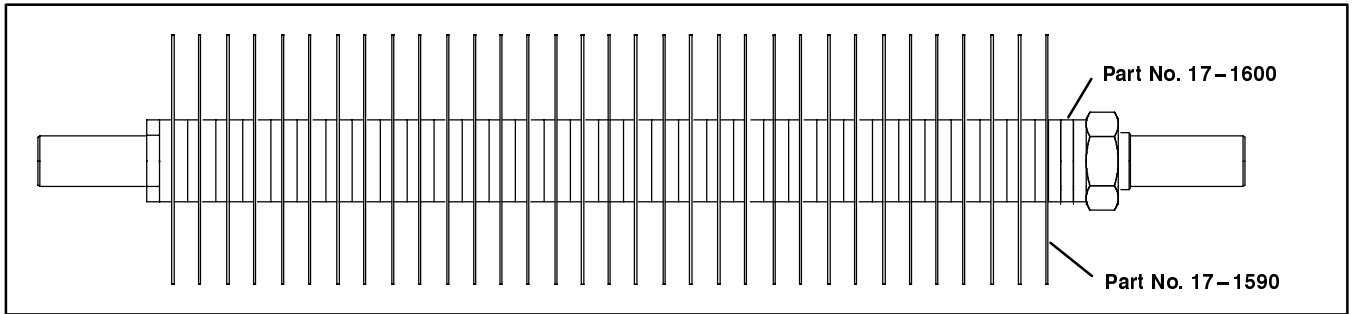

Figure 15
1/2" spacing, Kit Part No. 82-7000 – Includes (9) Blades (part no. 17-1590) and (66) 1/4" Thick Spacers (part no. 17-1600) (Fig. 15).